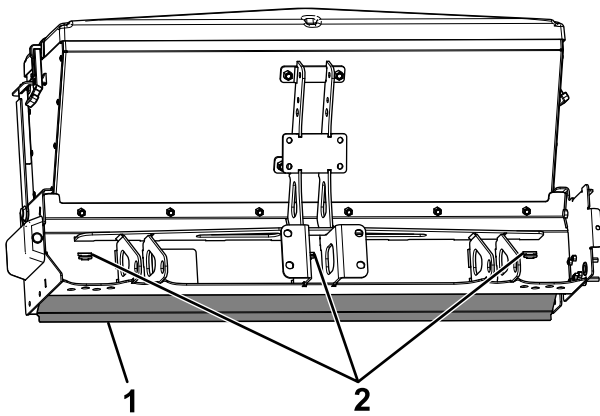

Figure 5
2. Slide the bed shield up under the spreader and lock the tabs into the slots on the spreader frame (Figure 5).